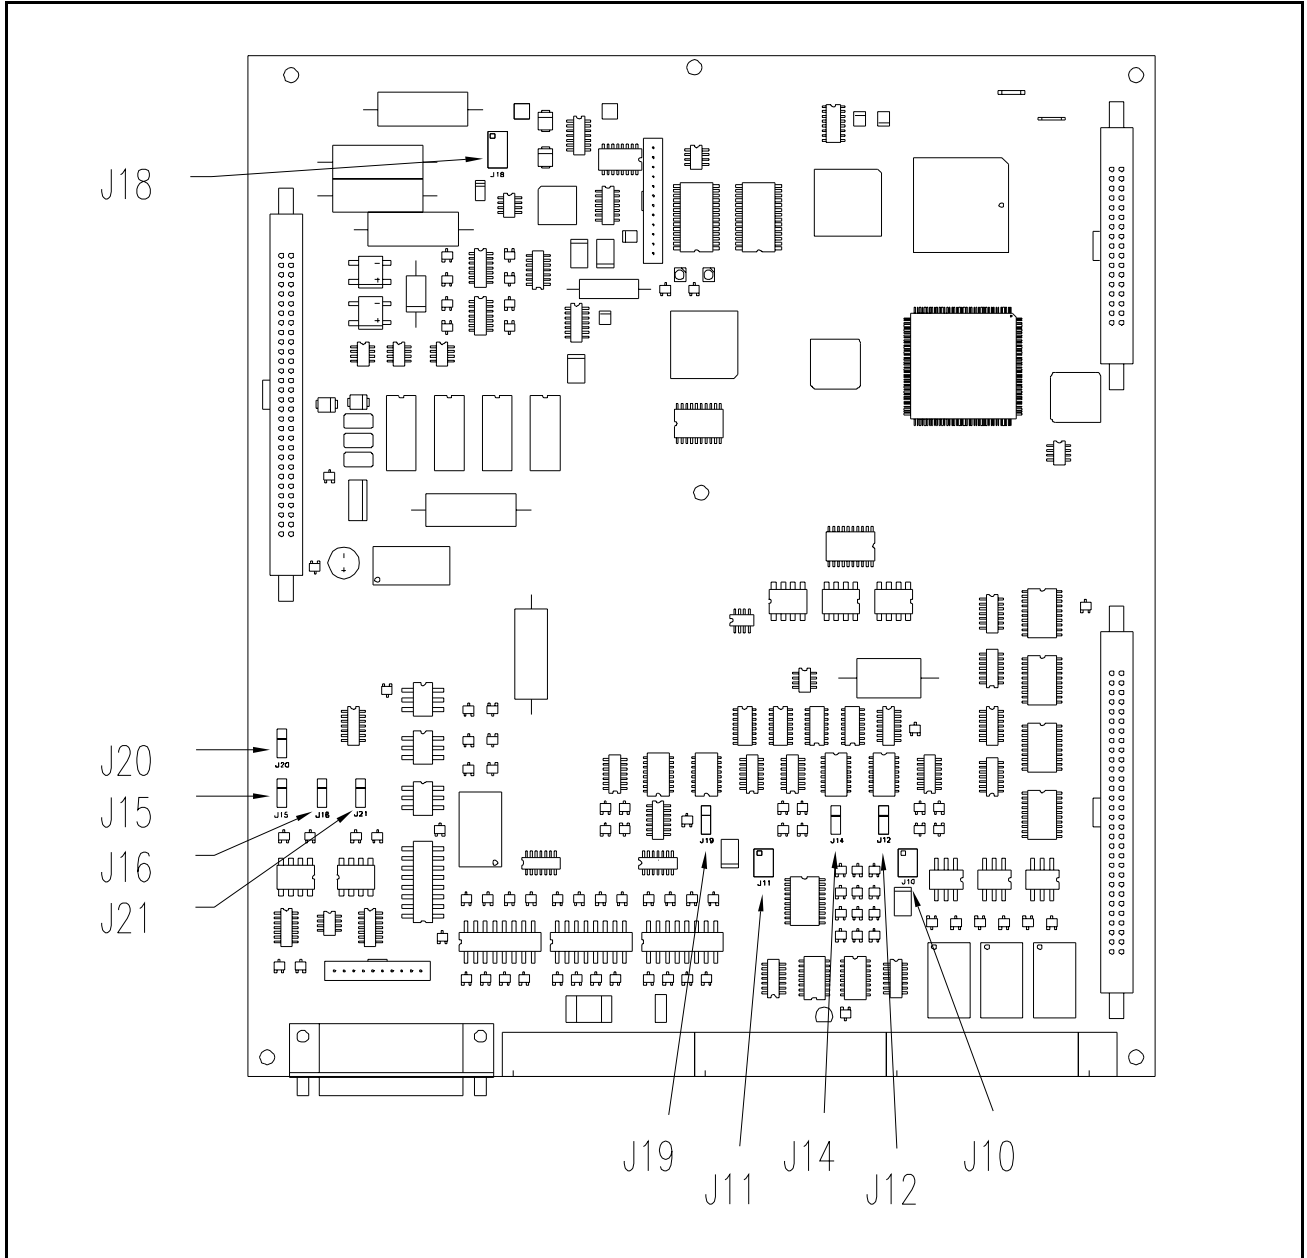
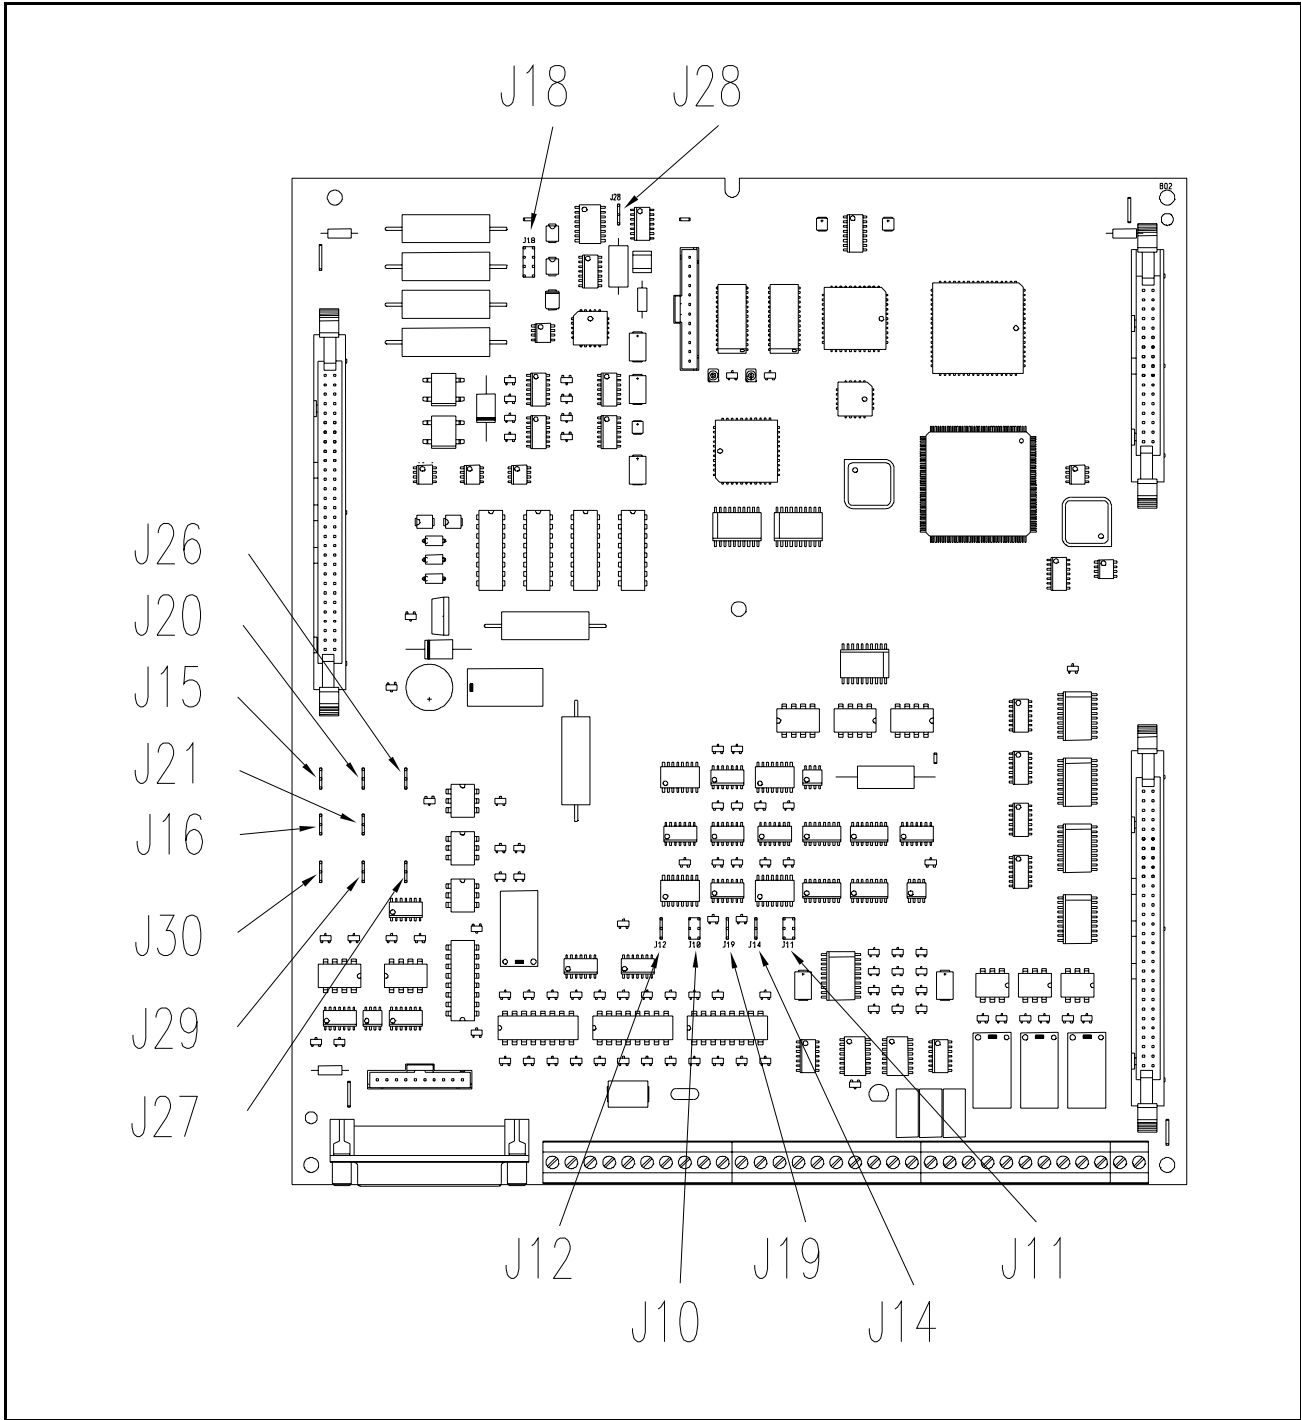

Figure 4 – Version 3.x Regulator Board Jumper Locations
Figure 5 – Version 4.x Regulator Board Jumper Locations
Step 8. Note the settings of the jumpers, listed below, on the old Regulator board. Figure 4 and figure 5 show the locations of these jumpers.